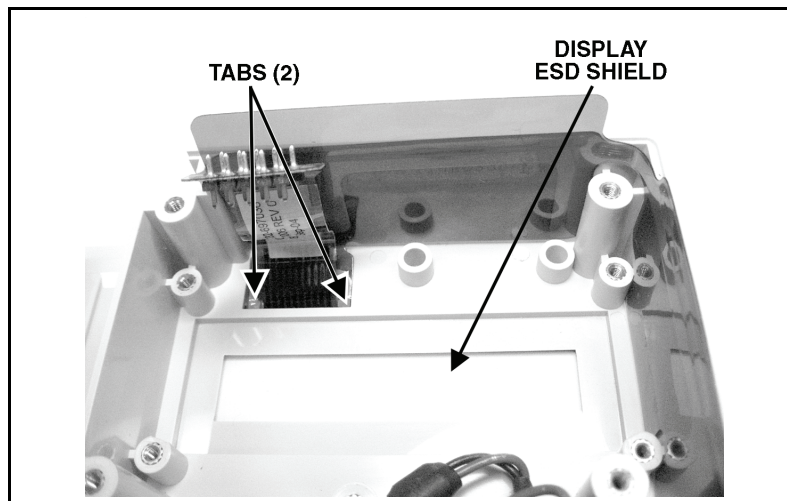

Figure 6-6. ESD Flex Circuit and Display ESD Shield
2. Refer to Figures 6-6 and 6-7. Starting at the rear of the Front Case, carefully raise the ESD Flex Circuit and release the two tabs from around the keypad cable.